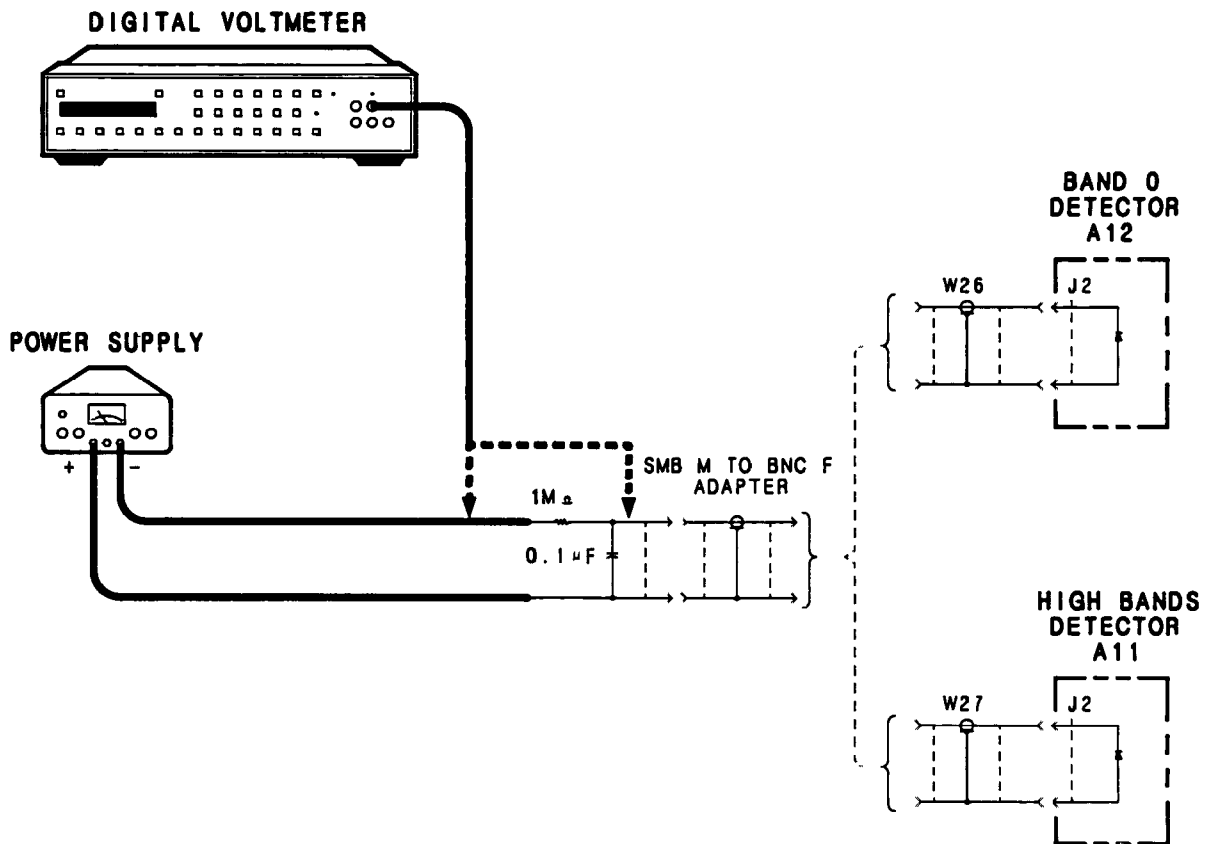

Figure 5-45. Logger Temperature Compensation Test Setup
5. Connect the test equipment as shown in Figure 5-45 with cable W27 connector connected to an SMB-to-BNC adapter.
6. Connect the DVM across the output terminals of the Power Supply and adjust the power supply output for 5.00 ± 0.01 Vdc. Move the DVM connections back to the SMB-to-BNC adapter as shown in Figure 5-45.
10. Disconnect the high band detector A11 cable W27 from the SMB-to-BNC adapter and connect the low band detector A12 cable W26 to the adapter as shown in Figure 5-45.
11. Connect the DVM at the output of the Power Supply and check that the output is still at 5.00 ± 0.01 Vdc. Move the DVM connections back to the SMB-to-BNC adapter as shown in Figure 5-45.